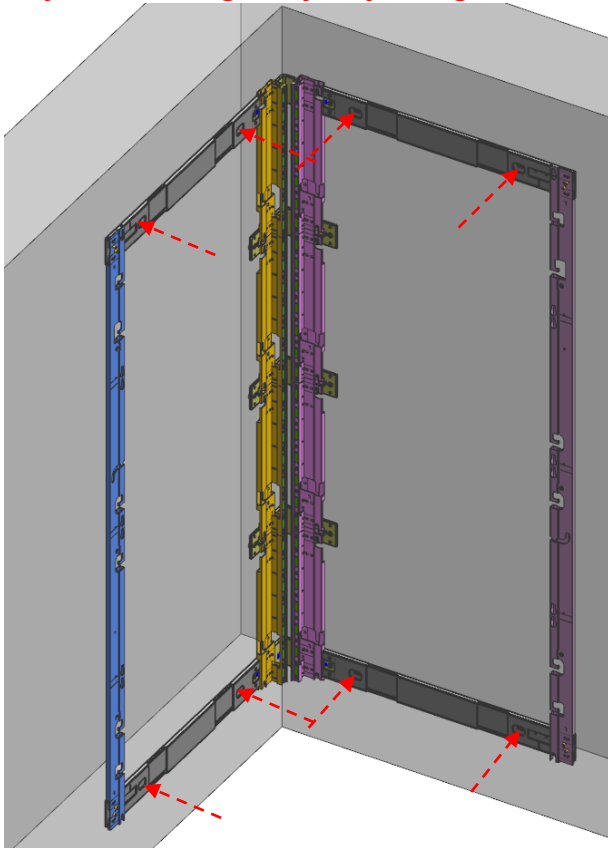

Fig.1
④ Fasten the assembled FRAME to the wall. (Fig.1)